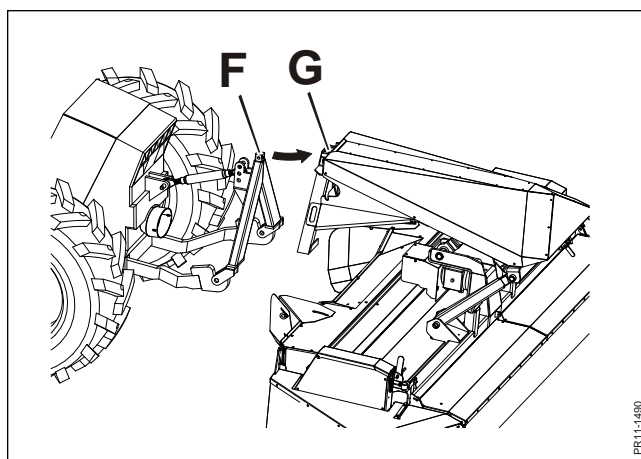

Fig. 2-3
**Fig. 2-3** With the A-frame **F** mounted on the tractor, drive straight to the machine and lift the A-frame up in the headstock **G** at the rear of the machine. By lifting the headstock, the parking lock can be removed. More information in the section "Connection/disconnection of the machine".